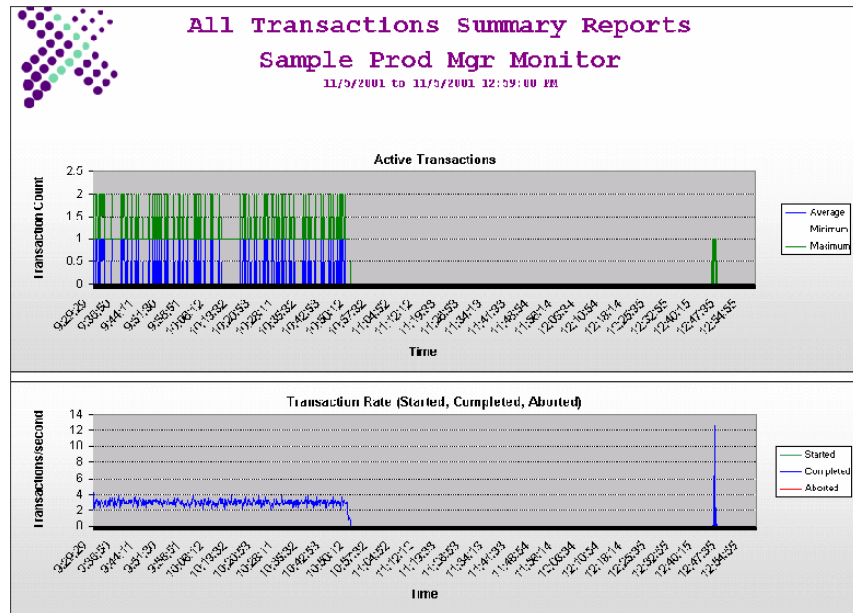

Figure 11
12. The next report is the **All Transactions Report** (see Figure 11).